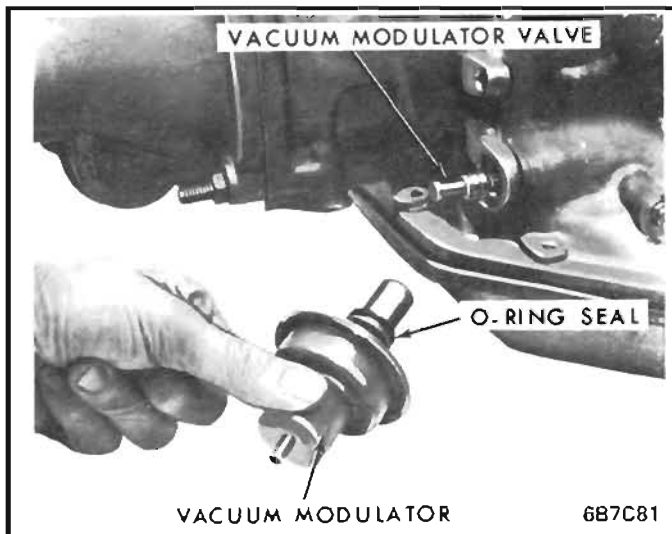

Figure 114 Modulator Installation
3. Install vacuum modulator valve and modulator. *See Figure 114.* Lubricate "O" ring seal to prevent damage, install retaining clip and torque bolt to 12 ft. lbs. (16 N*m)